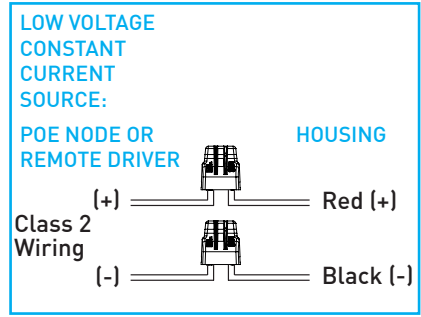

Fig.16
Feed structured building wires through knockout, secure to corresponding connector “Fig.16” and tighten strain relief.
**Quick connectors** provided for low voltage connection: Red (+) and Black (-) “Fig.16”.